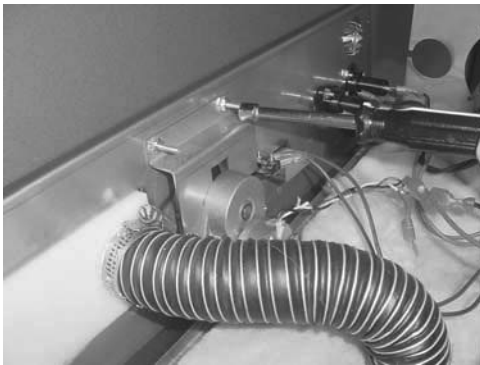

Figure 3-56
2. Using a 5/16" socket or nutdriver, remove the 4 nuts securing the bracket to the back panel. Figure 3-56.